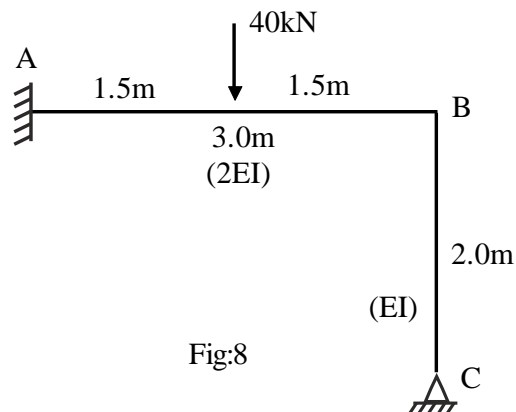

Fig:8
9. Analyse the plane frame shown in fig : 8 and draw its BMD neglecting axial deformations. Use stiffness method. 13